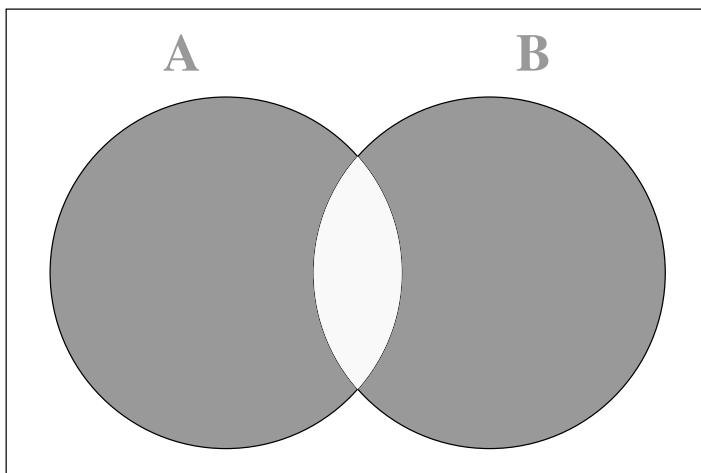

Fig. 4.28: Venn Diagram
50. The Boolean expression for the shaded regions as shown in Fig. 4.28 is _____.